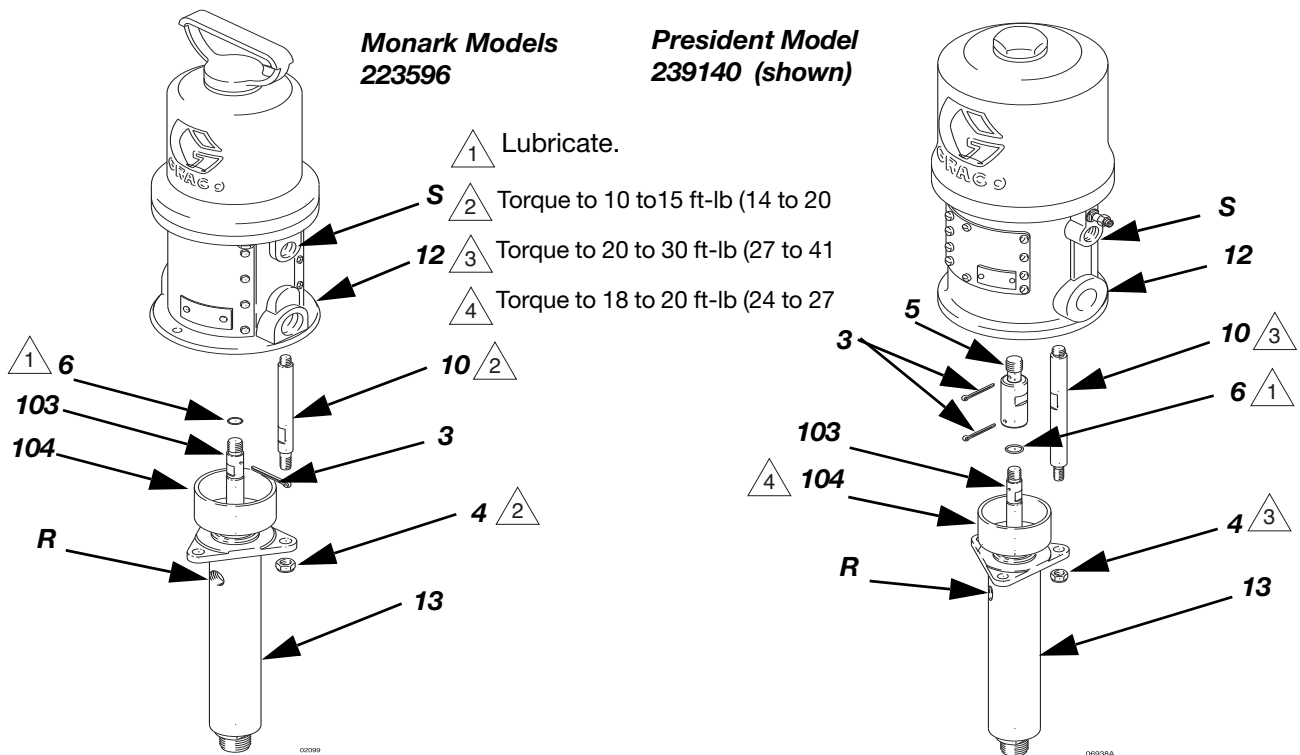

FIG. 3
Keep the packing nut/wet-cup (104) filled with Graco Throat Seal Liquid (TSL) or compatible solvent to help prolong the packing life. Ensure weekly that the packing nut is torqued to 18 to 20 ft-lb (24 to 27 N•m); do not overtighten it. See FIG. 3. Follow the **Pressure Relief Procedure**, page 9, before adjusting the packing nut or adding TSL.
3. Disconnect the air and fluid hoses. Remove the pump from its mounting. Note the relative position of the fluid outlet (R) to the air inlet (S). See FIG. 3.
4. Unscrew the tie rod locknuts (4) from the tie rods (10). Remove the cotter pin (3). Carefully pull the displacement pump (13) off the air motor (12). Unscrew the displacement rod (103) from the air motor (12) or adapter (5, President Pump only). Inspect the o-ring (6).
1. Lubricate the o-ring (6) and check that it is in place on the displacement rod (103).
2. Orient the fluid outlet (R) to the air inlet (S) as noted in step 2 under **Disconnecting the Displacement Pump**, page 12. Position the displacement pump (13) on the tie rods (10). See FIG. 3.
3. Screw the displacement rod (103) into the shaft of the air motor (12) or the adapter (5, President Pump only) until the pin holes are aligned. Screw the locknuts (4) onto the tie rods (10) loosely. Install the cotter pin (3).
4. Mount the pump and reconnect all hoses. Reconnect the ground wire if it was disconnected during repair. Torque the packing nut (104) to 18 to 20 ft-lb (24 to 27 N•m). Fill the wet-cup with Graco Throat Seal Liquid or compatible solvent.
5. Tighten the tie rod locknuts (4) evenly, and torque as specified in FIG. 3. Start the pump and run it at about 40 psi (0.28 MPa, 2.8 bar) air pressure, to check that it is operating properly.